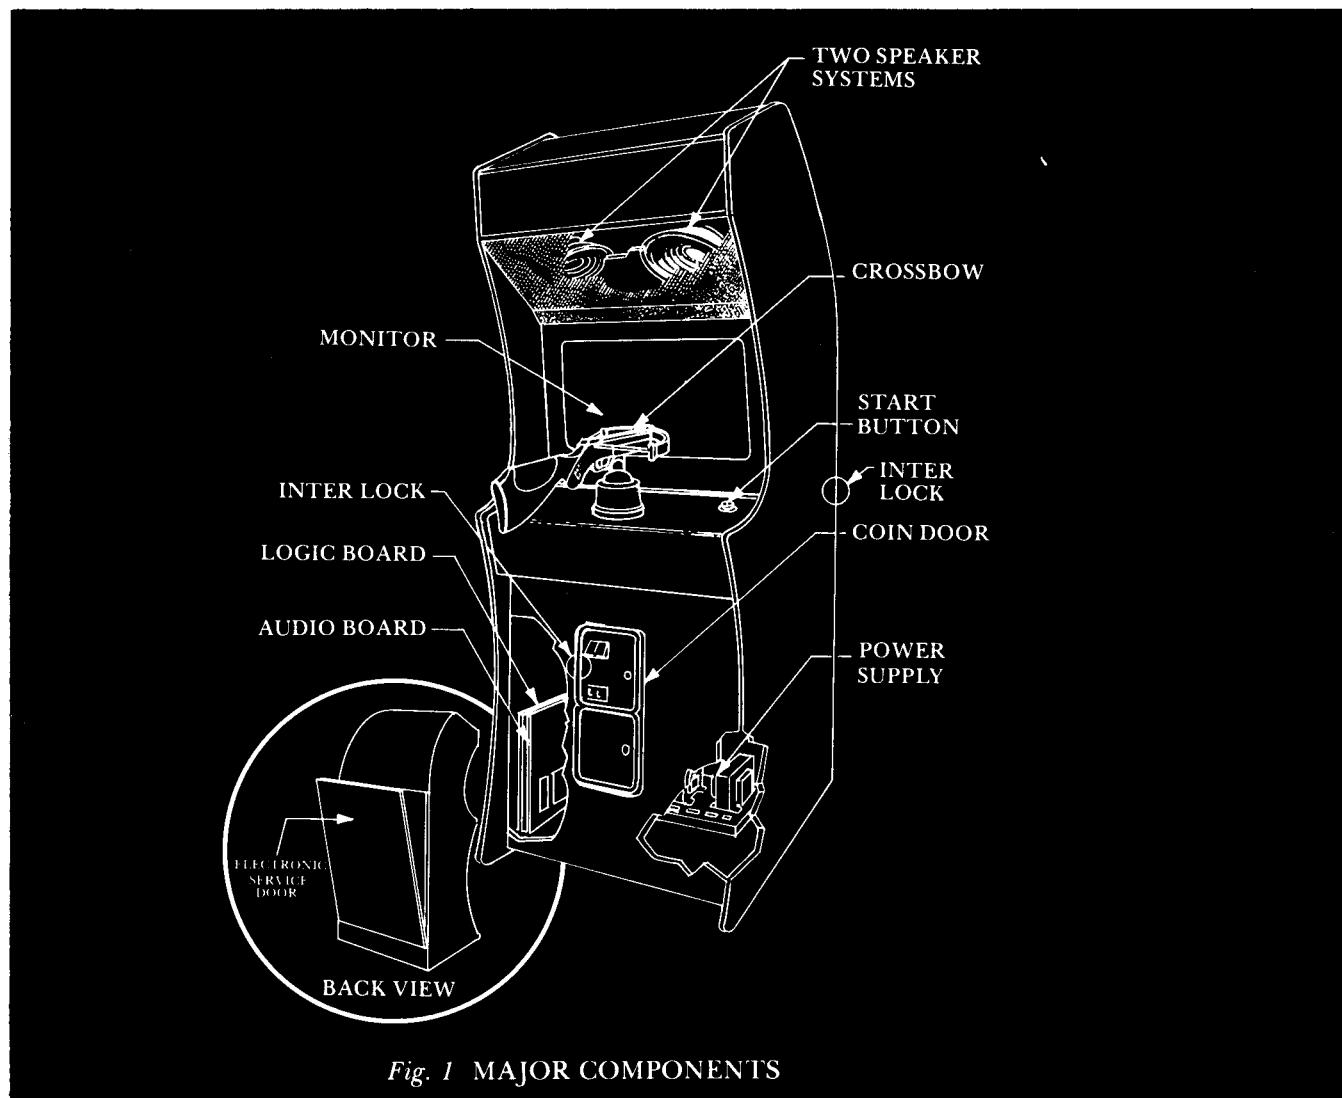
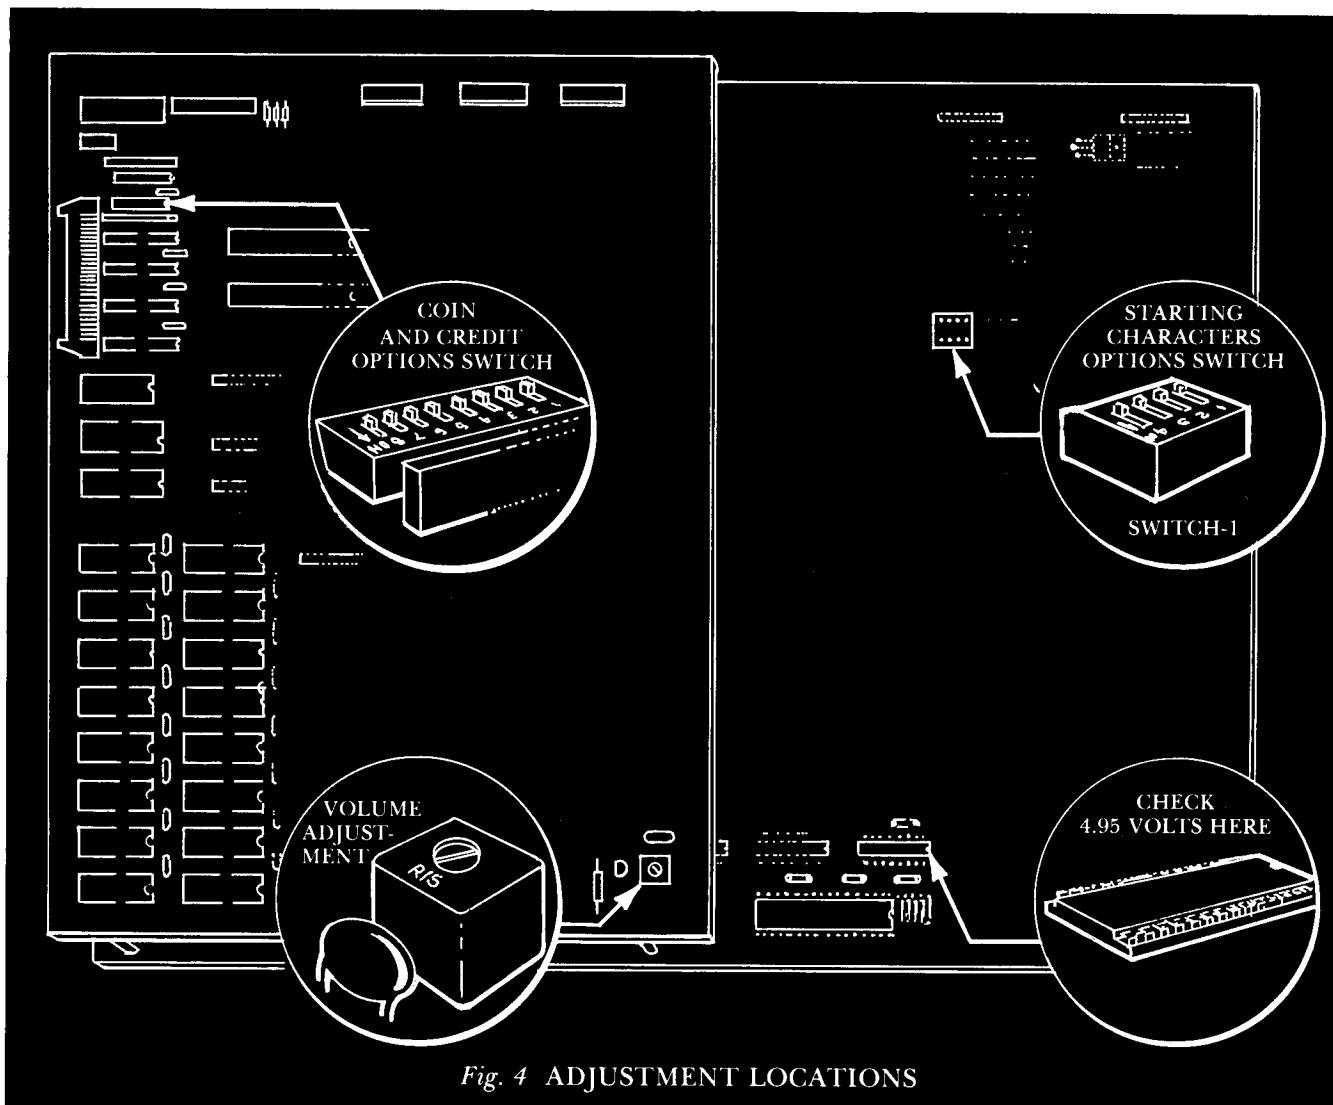

Fig. 1 MAJOR COMPONENTS
Fig. 4 ADJUSTMENT LOCATIONS
The major components of your Crossbow game are illustrated in (See Fig. 1). These major components are the following:
*CAUTION: Only certified technicians should make adjustments on all components of **Crossbow™**. Only the +5v DC is adjustable. This must be adjusted to: +4.95 VDC as measured on the PCB near the microprocessor (location J2) (See Fig. 4).*
Adjust R15 master audio volume control located at position T2 on the Audio Logic Board (See Fig. 4) and adjust audio level while game is in progress. This audio board rides piggyback on the logic board, mounted inside of the cabinet on the side wall (See Fig. 1).
1. Open the Coin Door to access the AC interlock switch, game will power down (See Fig. 1).